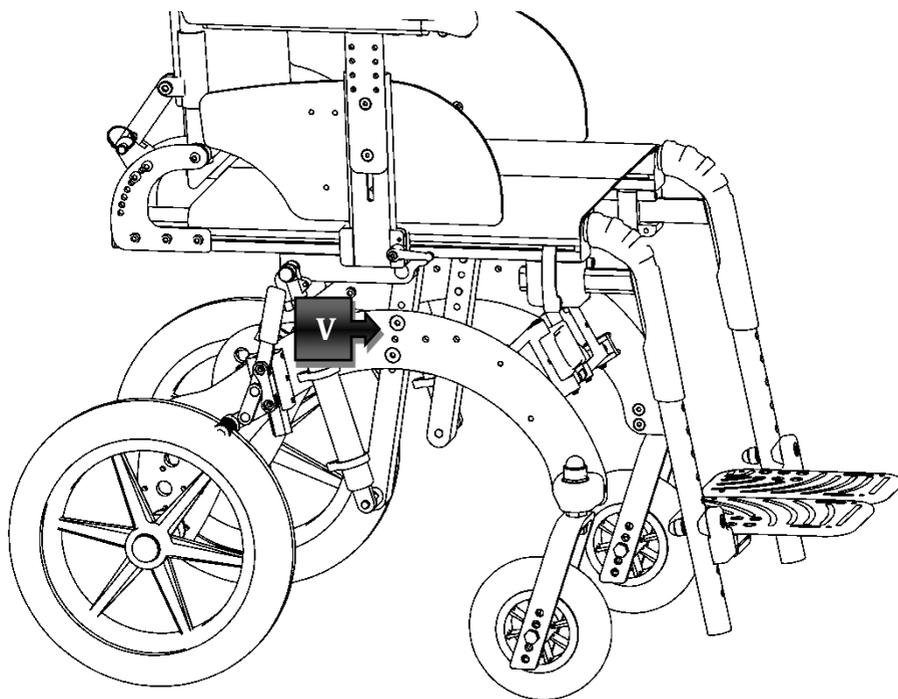

Figure 20
It is possible to make height adjustment of the seat simply by acting on the two screws (V) shown in Figure 20 on both sides. You can even get an asymmetric position of the seat adjusting independently the two sides.